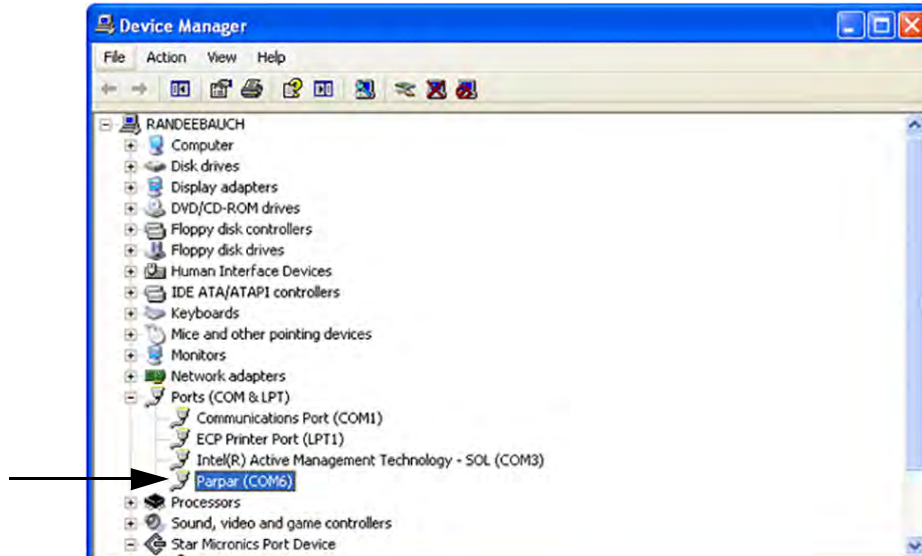

Figure 5-4. Device Manager
- To configure a printer using the USB driver, open the software driver **Parpar** in the device manager (Figure 5-4). The port assigned to that driver is displayed.